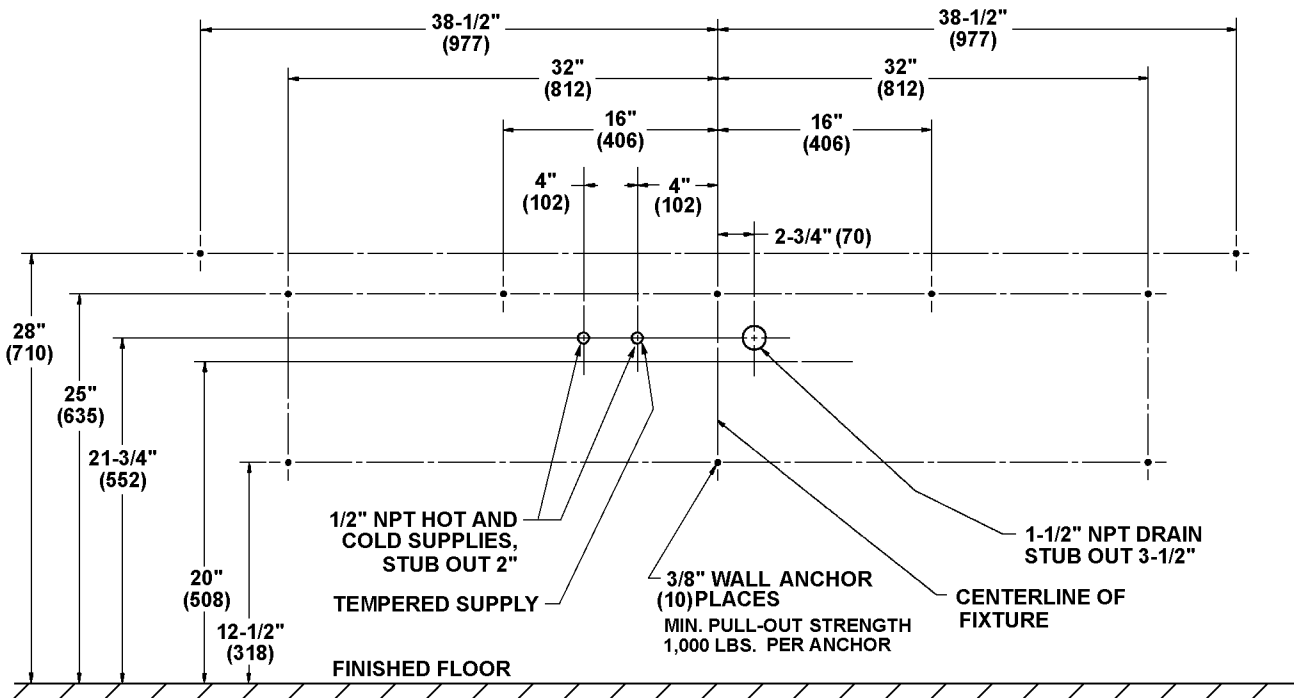

Figure 1b
Note: See Figure 1a below (for Standard Height) and Figure 1b on page 5 (for Juvenile Height) when roughing in the Express®.
3. Install ten 3/8" wall anchors with a minimum pull-out rating of 1,000 lbs. (supplied by installer) at the locations shown in Figure 1a below or Figure 1b on page 5.